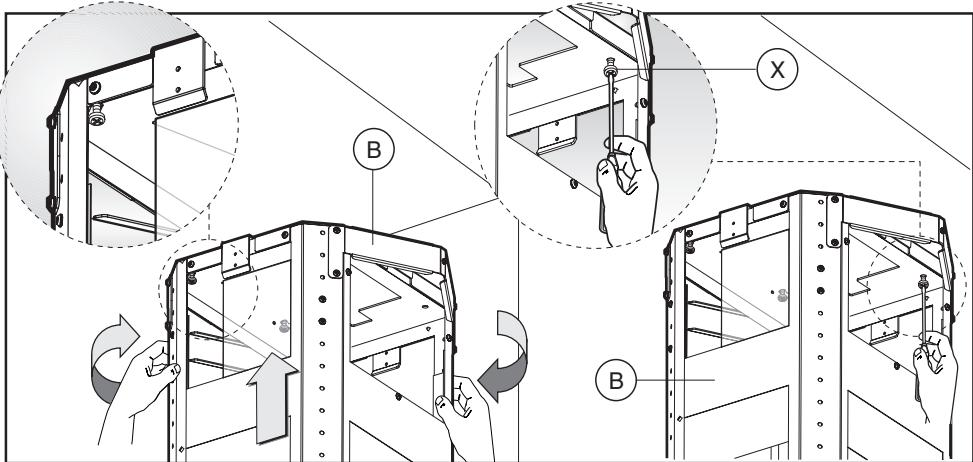

Fig.5
- Take the upper part of the structure **B** (fig.5) and insert the 3 slots onto the 3 screws that are not completely tightened. Rotate slightly to fit (fig.5) .